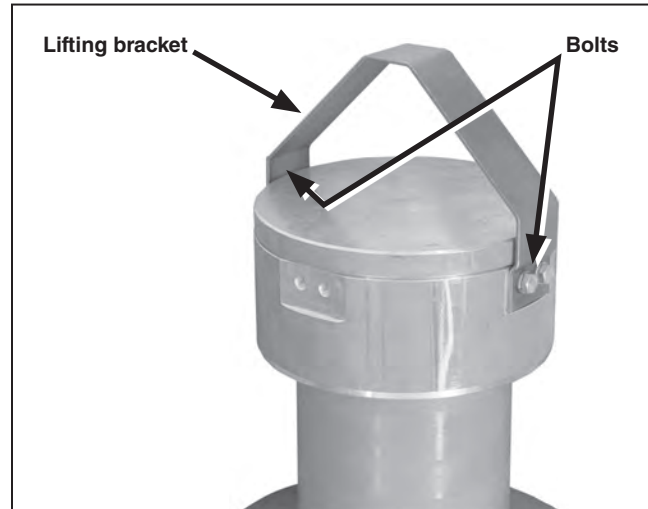

Figure 76. Remove the lifting bracket.
STEP 1. Remove the lifting bracket from the interrupter. Make sure all packing material has been removed from the top of the interrupter. See Figure 76.